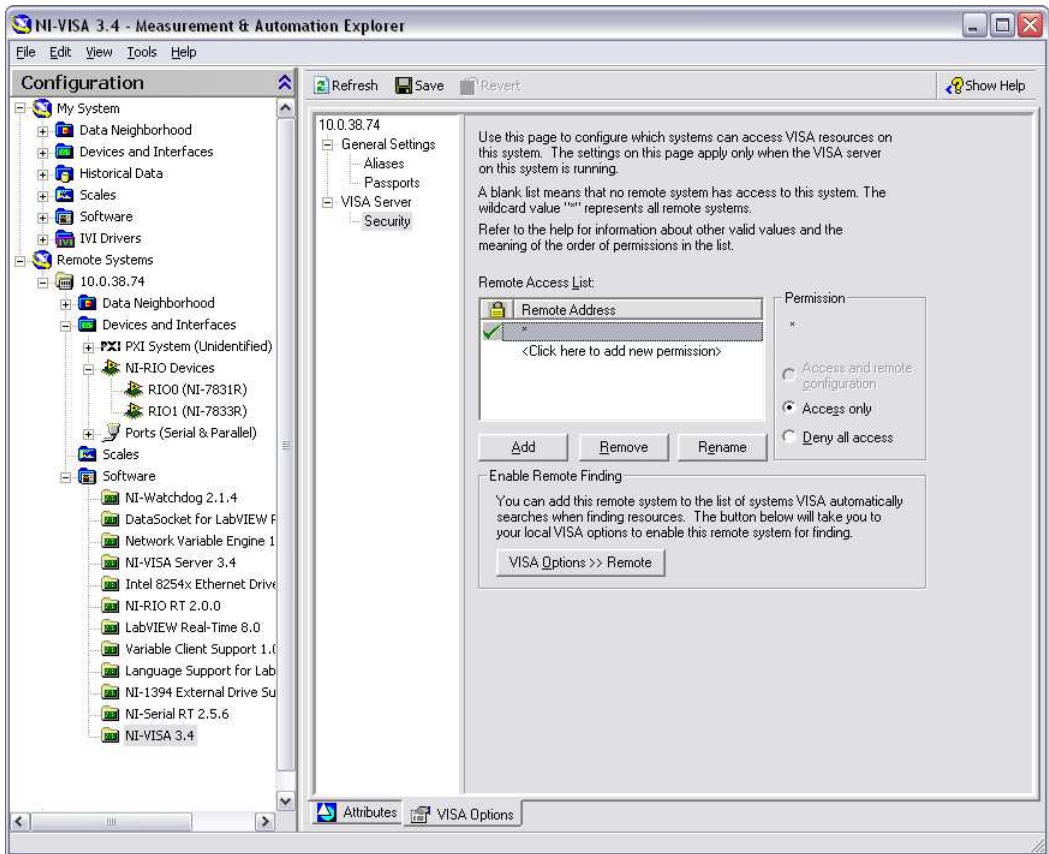

Figure 1. Setting Access Permissions for Remote Systems
- On the **VISA Options** page, select **VISA Server»Security** to view the **Remote Access List**, as shown in Figure 1.